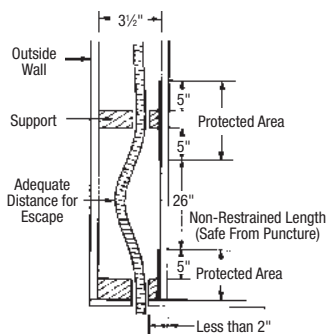

Figure 4.9 Elevation View of Unsupported Horizontal Tubing Run
- At support points and areas of possible penetration less than 2 inches away from any edge of a stud, joist, plate, etc., shielding is required both at the area of support and within 5 inches of each side. (Figure 4.9)